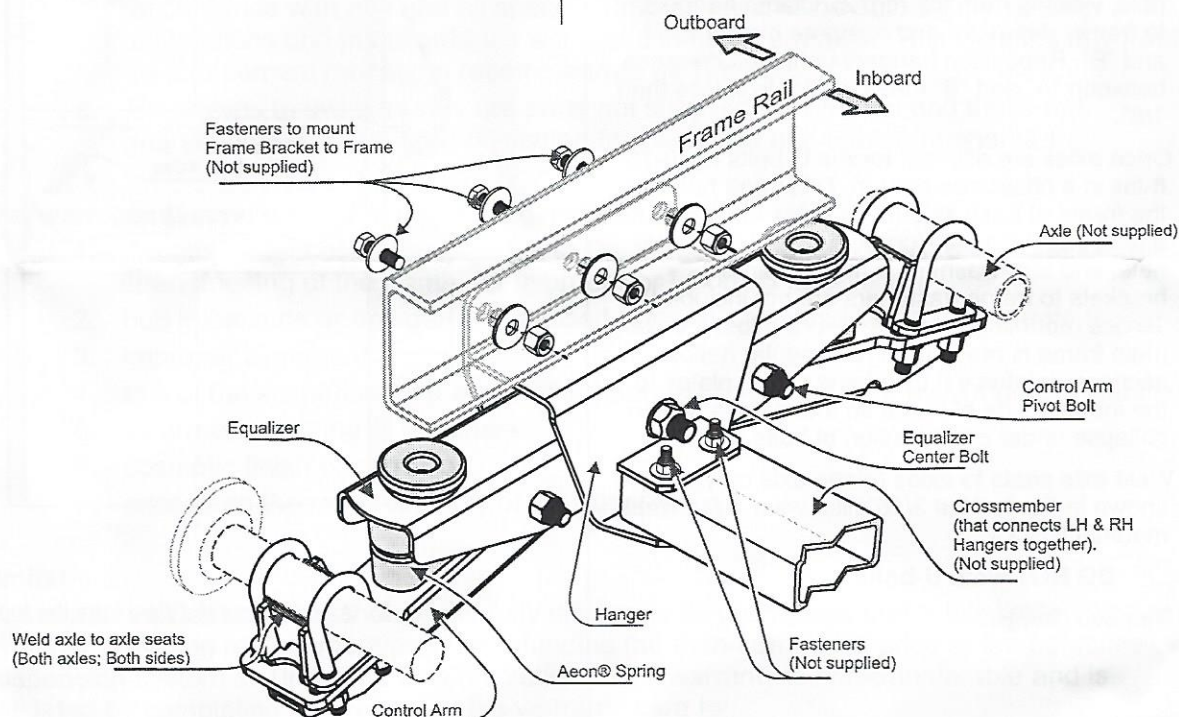

Fig. 1 Installation of suspension to trailer frame
2. Locate hangers on frame rails, opposite to each other. Mate inboard corner faces of each hanger with outboard corner faces of its corresponding frame rail (fig. 1). Move hangers along frame until center of hanger lines up with mark on frame rail at each side. Clamp hangers to frame.
4. Install crossmember: Make a crossmember using a 2"x4"x3/16" Hollow Structural Steel, ASTM A500 Grade C or G40.21 Grade 350W). The length of crossmember must be the measured width of trailer frame less 10-1/2". Locate crossmember between hangers: position each end of it between two horizontal plates that are attached to inboard side of hanger. Make sure hangers are perpendicular to bottom surface of trailer. Tack weld and then weld crossmember to hangers (weld from top and bottom). Crossmember can also be bolted to hanger (fig 1): use existing holes as a template to drill holes. Use 1/2" bolts (3-1/4" long), washers and nuts to attach crossmember to hangers. Apply a full torque of 70-75 ft-lbs to each nut.
7. Weld axle seats to axles (along axle only), as shown in fig. 1. Use 3/16" fillet weld. Use weld material E70XX.